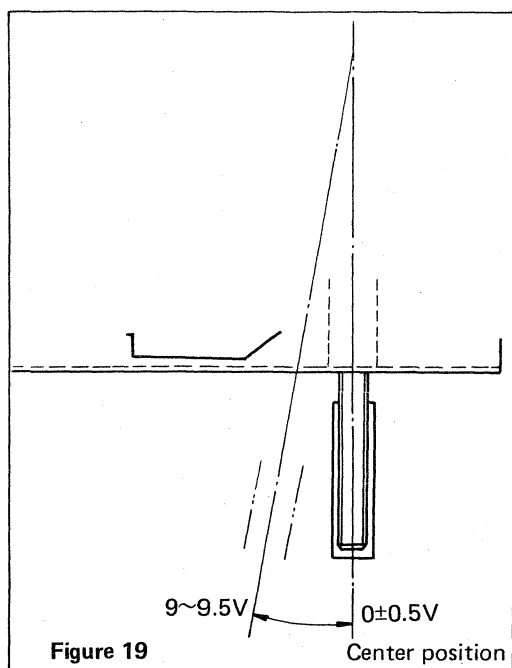

Figure 19
- (2) Adjust VR 201 so that voltage reads 9.0 to 9.5V when tonearm is swung to left side by hand (See Fig. 19), and then adjust eccentric pin (B) so that voltage reads  $-0.5$  to  $+0.5$ V when tonearm locates at the center (See Fig. 19, 20).